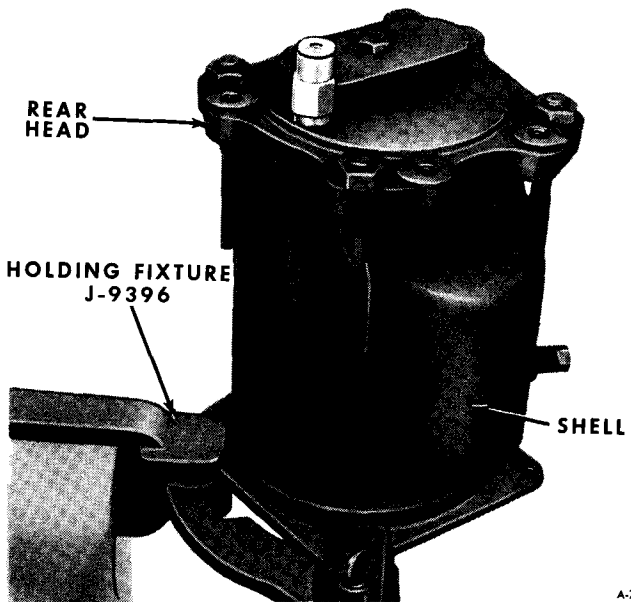

Figure 93—Compressor Installed in Holding Fixture
3. Invert compressor and holding fixture J-9396 with front end of compressor shaft facing downward (figure 93).
4. Remove four lock nuts from threaded studs on compressor shell and remove rear head. Tap uniformly around rear head if head is binding (figure 93).